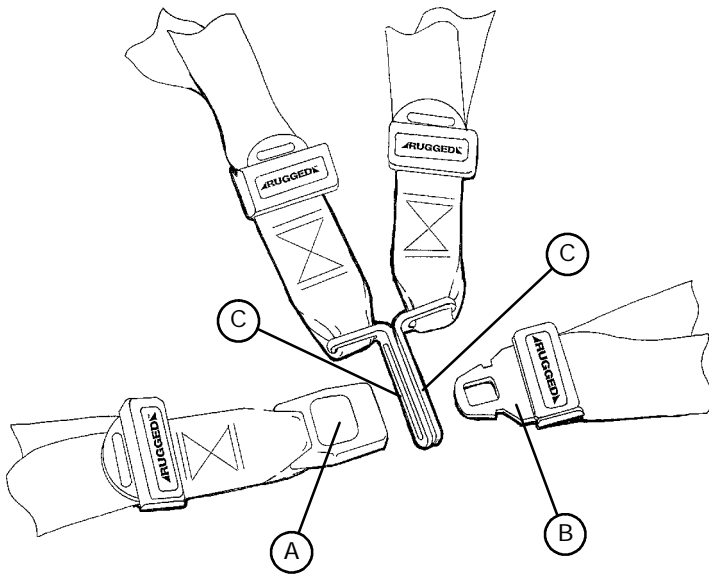

Figure 9 - Buckling the Safety Restraint
To open the restraint, press the red button (A) on the front of the buckle "receiver". This releases the buckle "tang" (B) which can then be pulled out of the receiver (Figure 9).
To close the restraint, push the tang into the receiver until a "click" is heard. When fastening the chest restraint be sure the tang passes through both links (C) on the shoulder strap (Figure 9).